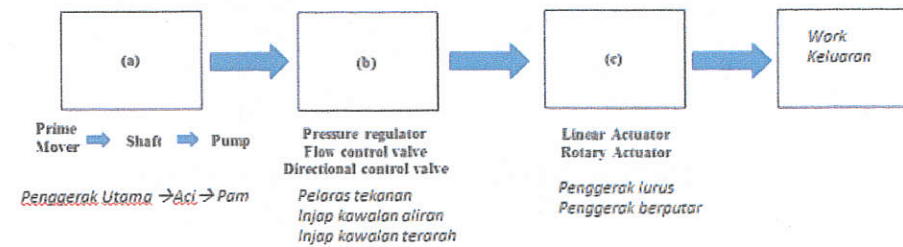

Figure A12 / Rajah A12
12. A hydraulic system can be divided into three main segments as shown in Figure A12. Choose the correct element of (a), (b) and (c) below.